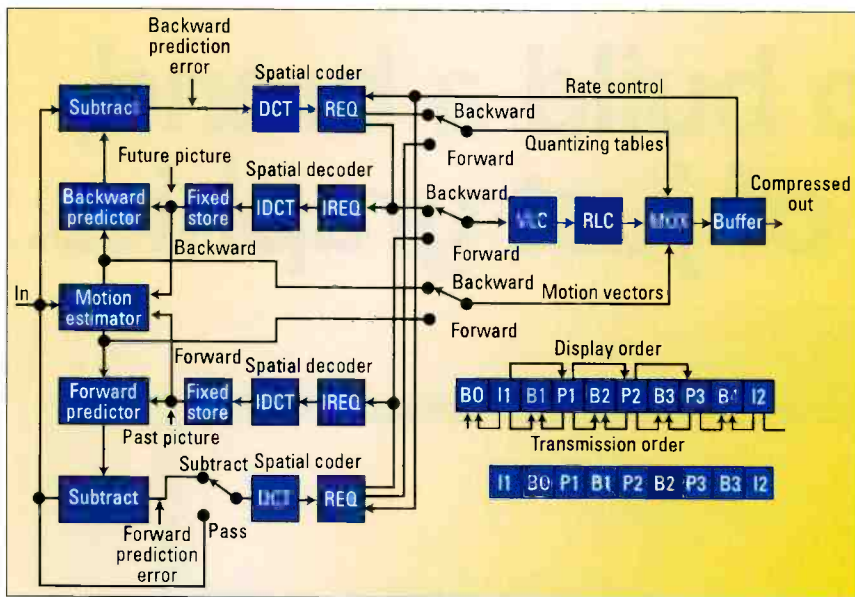

Figure 5. Conceptual block diagram of an IPB encoder
In applications where random access is important, I pictures are used twice every second. The encoder also chooses the number of B pictures between any pair of I or P pictures. A GOP is no more than 15 pictures long, starting with an I picture and finishing with a B picture. A typical arrangement of I, P and B pictures is shown in Figure 5 in the order in which they are displayed. The MPEG encoder reorders the pictures in the video stream to present the pictures to the decoder in the most efficient sequence.
• Bidirectional coded pictures (B): A new B picture from the input contains predictable information present in the I and P pictures, as well as unpredictable (discovered) information. Figure 5 shows a conceptual diagram of an IBP compression scheme. The motion compensator compares the B picture